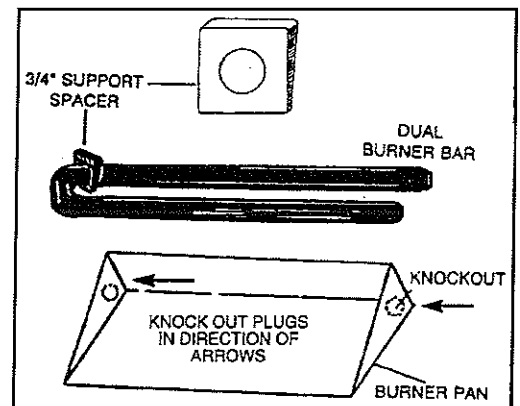

Figure 5 - Burner bar placement
- C. Slide the 3/4" burner support spacer (Part #10) over the Dual Burner Bar (Part #9) and move spacer to opposite corner of the gas intake connection (See Figure 5).